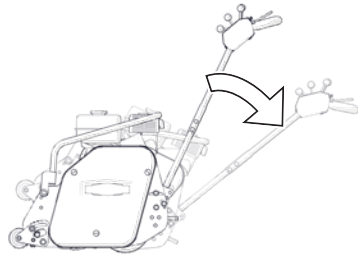

Fig.8C - Gently tip the machine back
4. Tip the machine gently back so it rests on the rear roller and handlebar (Fig.8C).